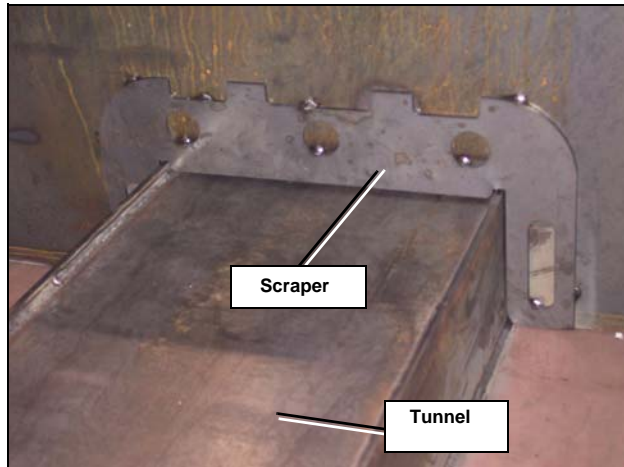

Figure 62. Packer scraper
1. Place the scraper over the tunnel (see Figure 62. "Packer scraper").